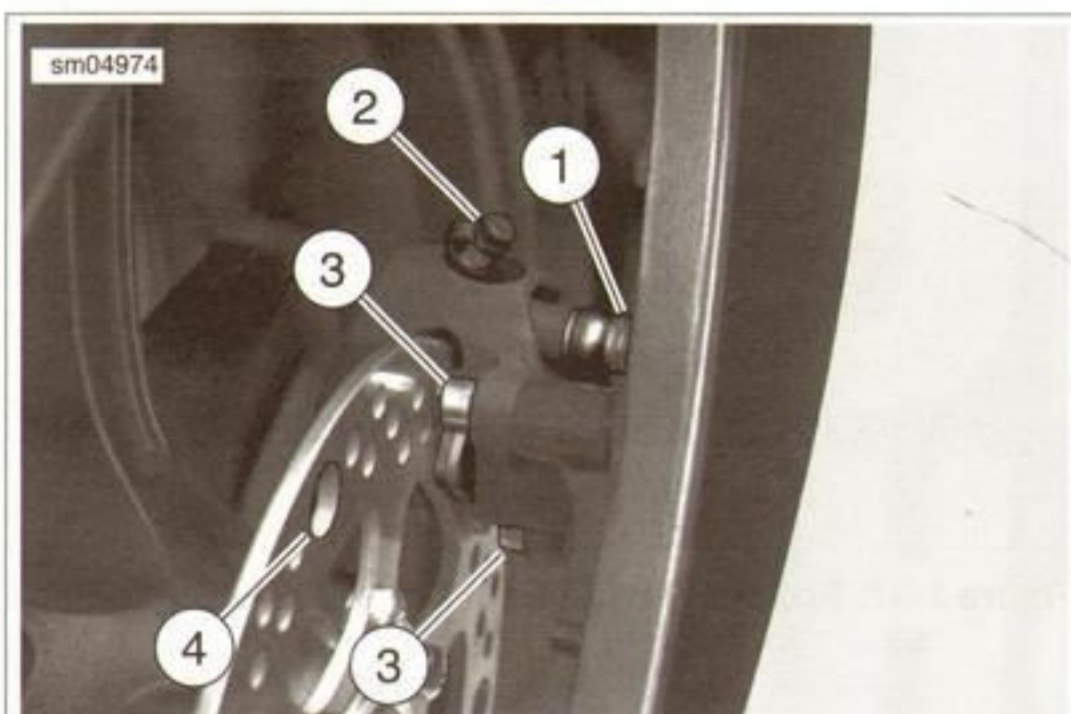

Figure 1-32. Rear Brake Line P-clamp
2. See Figure 1-32. Remove the rear P-clamp (closest to the rear axle) securing the brake line to the swingarm.
6. See Figure 1-32. Install fasteners securing P-clamps and brake line assembly to swingarm and tighten to 9.7-11.0 Nm (84-96 in-lbs).